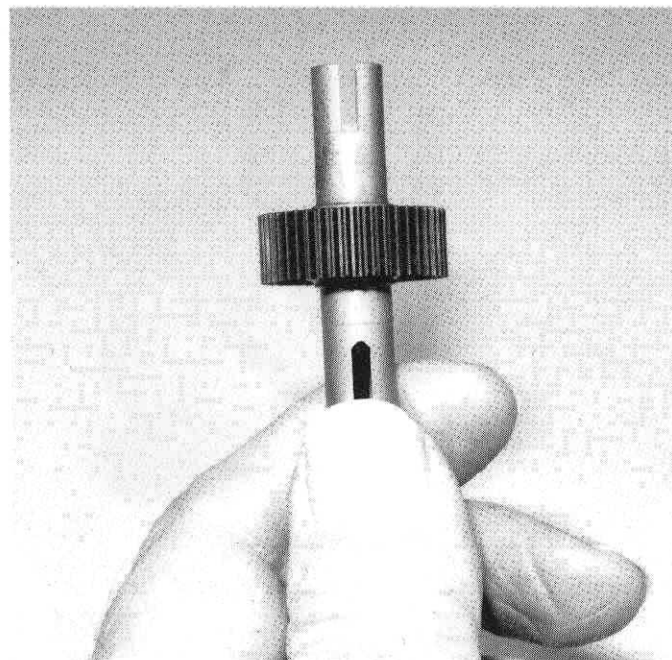
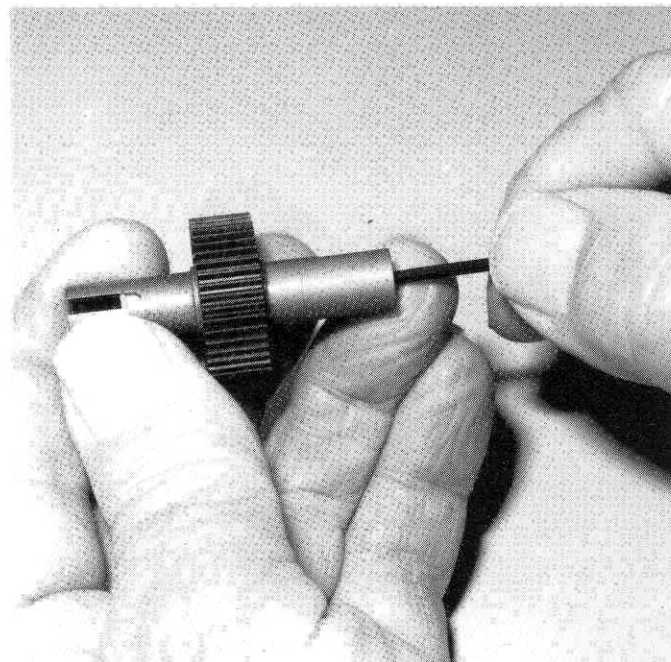

Fig. 45
Fig. 46
□ **Fig. 45** Now start to tighten the bolt with the Allen wrench, making sure the hubs and drive rings stay centered. Do this very slowly. We want to make sure everything stays centered. We'll finish the tightening in the next step with figs. 46 & 47.
□ **Figs. 46 & 47** Continue tightening slowly until the spring is completely collapsed. **DON'T OVER-TIGHTEN!** Correct adjustment is bottoming the spring and then backing off 1/8 to 1/4 turn.